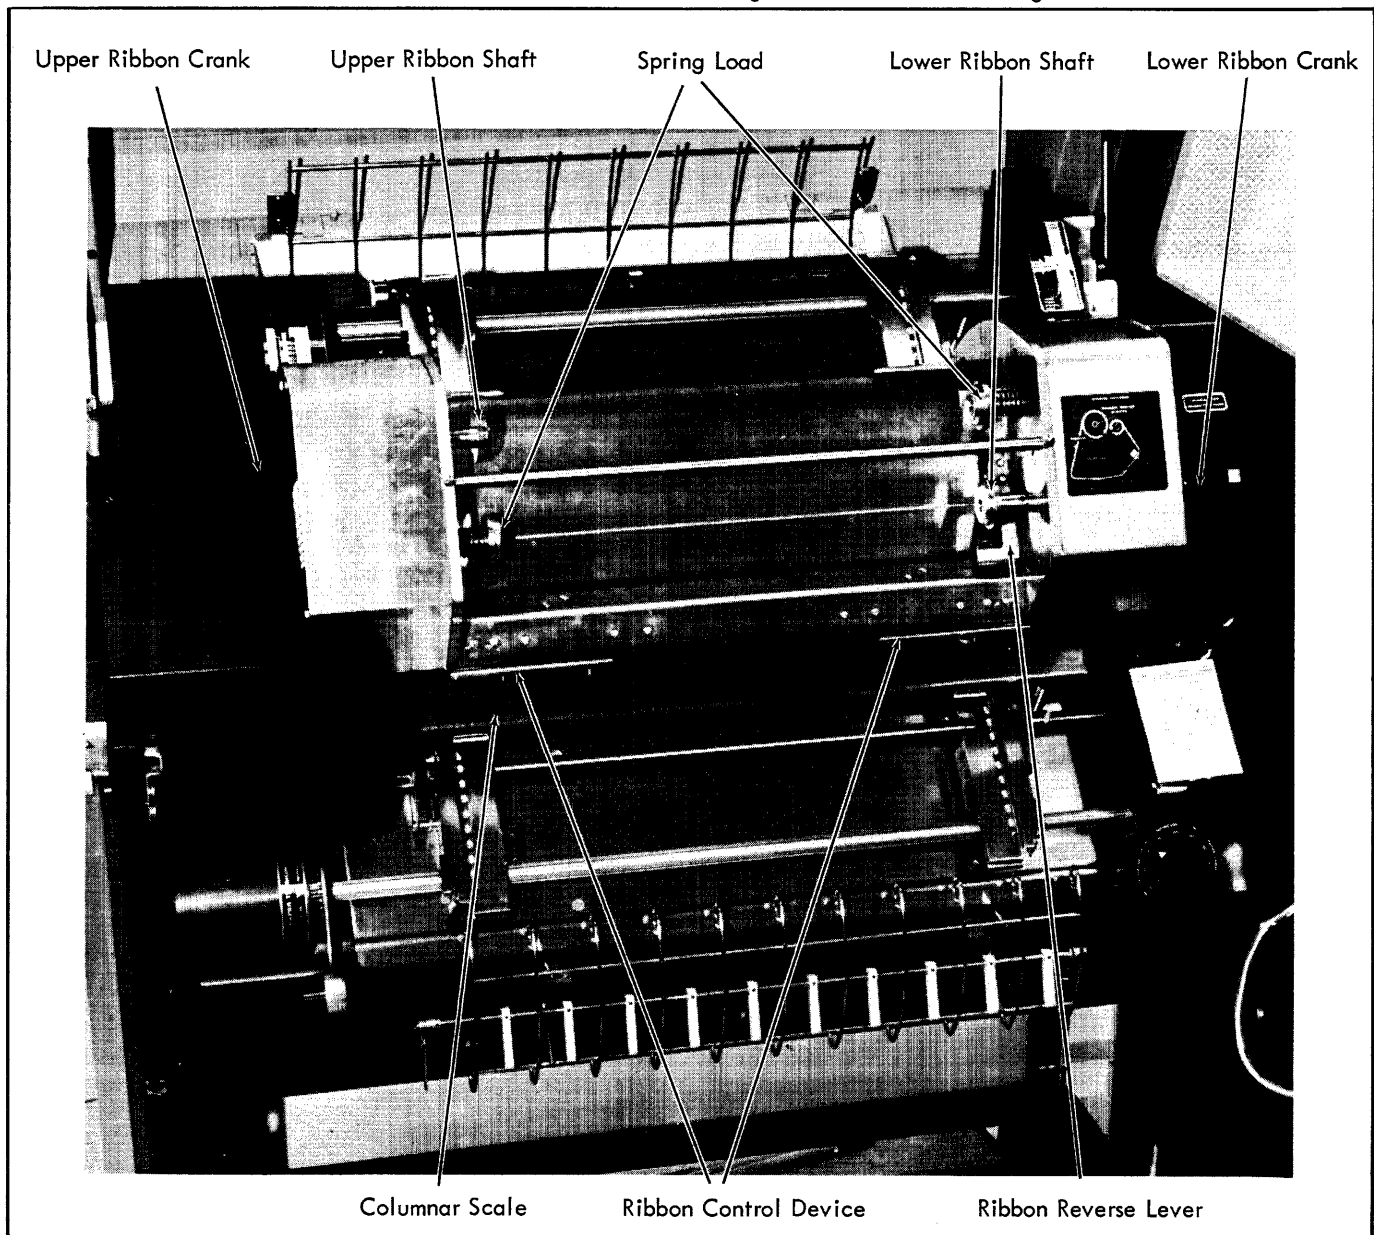

Figure 6. Line Printer Mechanism
2. Remove ribbon cover (see Figure 6).
2. Lift the VFU read head (see Figures 6 and 7) and install tape on the sprocket pins. The markings on the tape should be on the outside of the loop with the arrows pointing to the operator's left, toward the center of the mechanism. Close the read head.